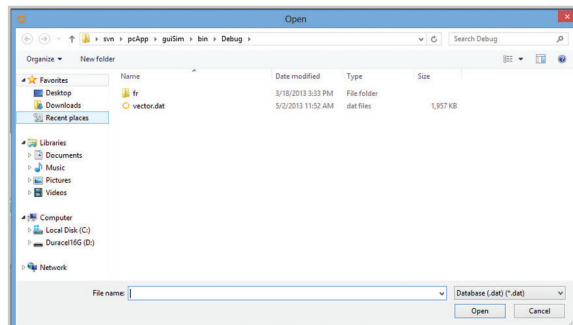

Figure 11-8: Restore Database Open Window
2. An Open File Window will appear. Find the database file and press the Open button. See Figure 11-8.